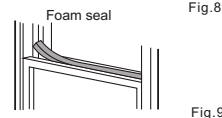

Fig.9
5. Trim the last foam seal to the proper length to seal the open gap between the top window sash and outer window sash. Fig.9.